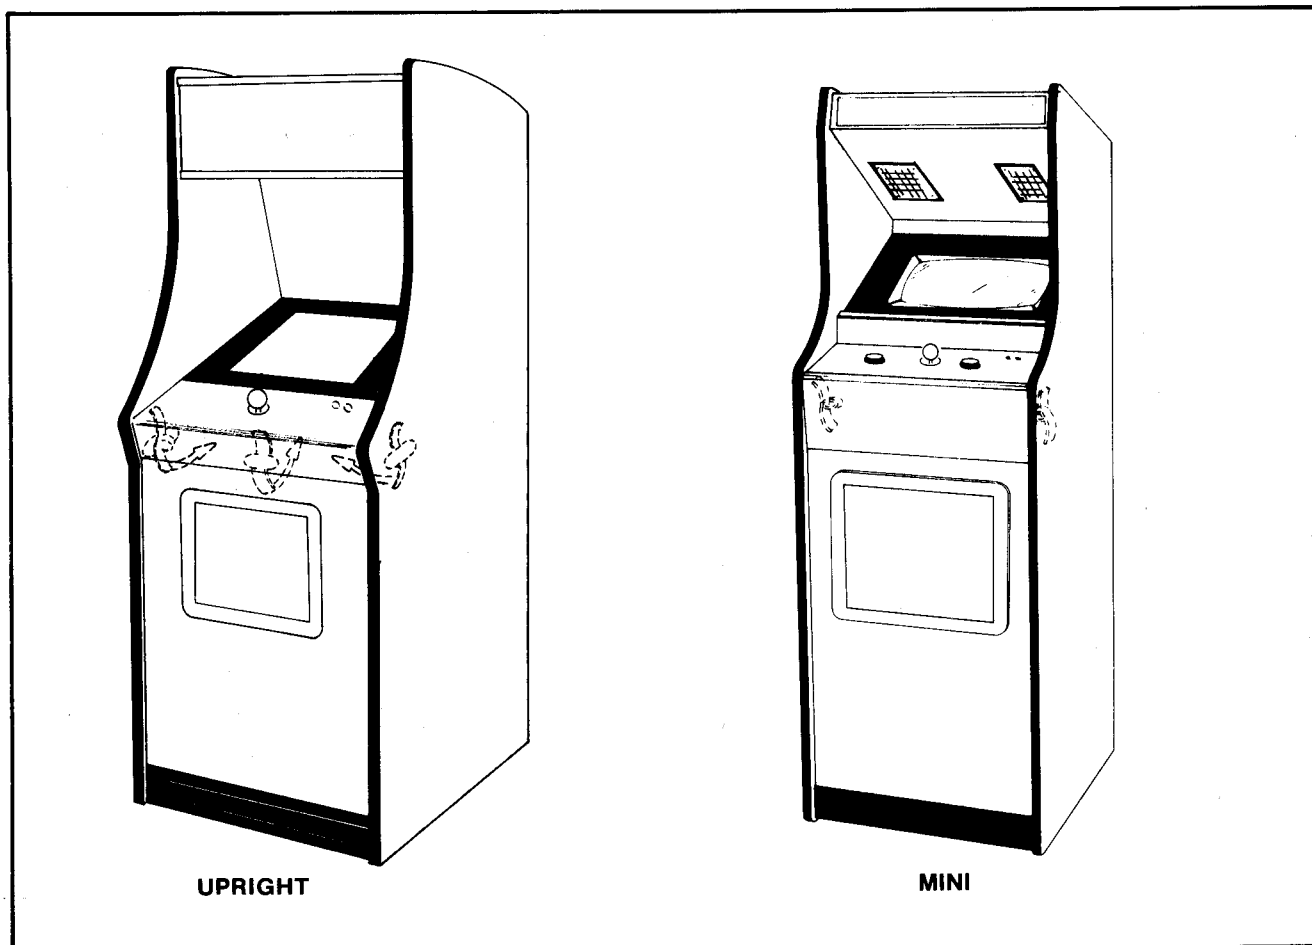

Figure 4-2 Opening the Control Panel — Upright & Mini
**OPENING THE CONTROL PANEL.** See Figure 4-2.